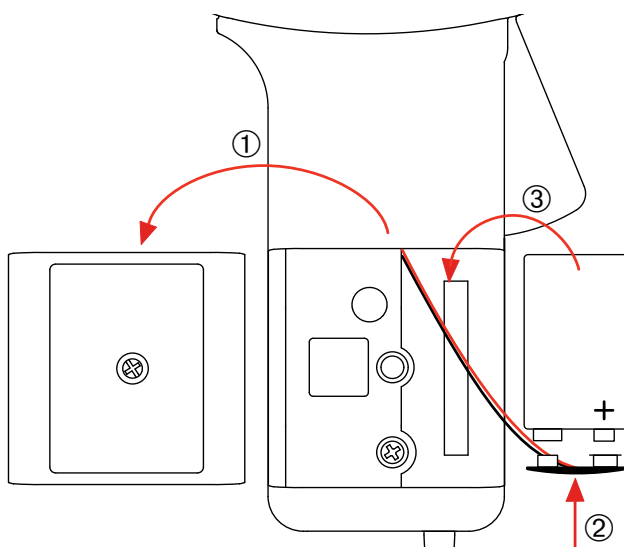

Figure 2
1. Using a screwdriver, remove the battery compartment cover (1) from the back of the housing (see Figure 2).
2. Connect the battery to the snap-on connector (2) while making sure that the polarity of the battery terminals match the snap-on connector.
3. Place the battery into the battery compartment (3).